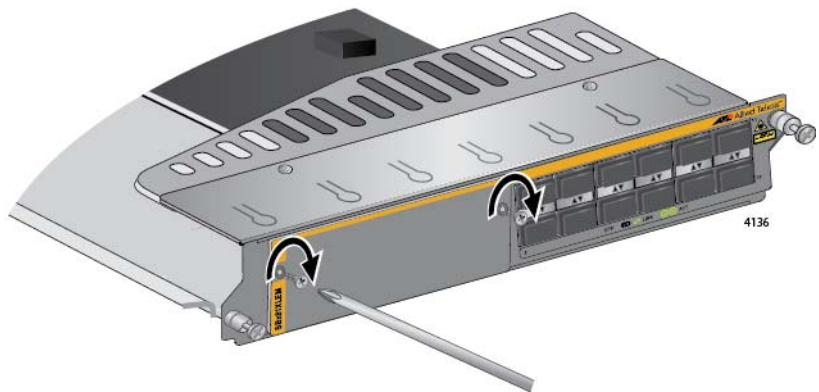

Figure 184. Securing the Blank Slot Cover
10. Secure the blank slot cover to the card with a Phillips-head screwdriver and the two screws removed in step 3. Refer to Figure 184.